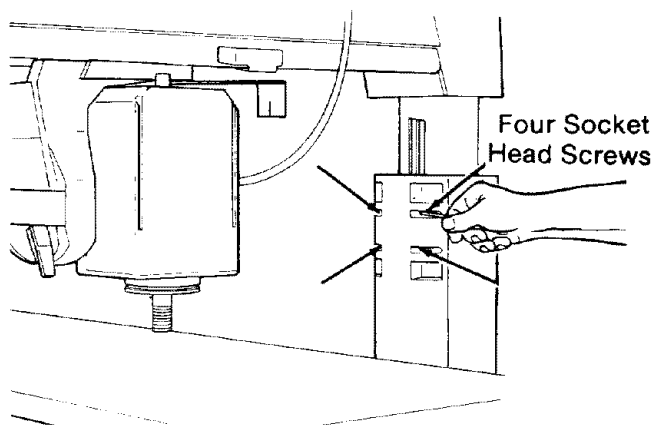

Fig. 96
1. Use a $3/16$ " hex "L" wrench to loosen the four screws in the front of the *column support*. (Figure 96)
3. **If** movement seems smooth and the *column* does not rock back and forth, use a $3/16$ allen wrench to retighten the four screws in the front of the column support. (Figure 96). Do not over tighten or it will be difficult to raise and lower the radial arm. After completing these steps go on to the next section, **or**